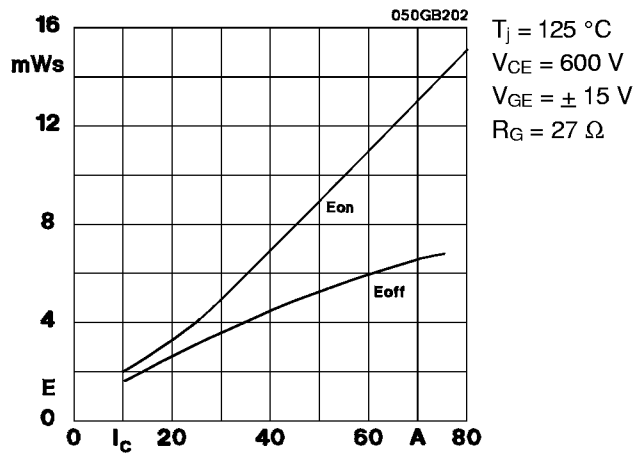

Fig. 2 Turn-on /-off energy  $= f(I_c)$
5) See fig. 2 + 3; RGoff = 27 Ω